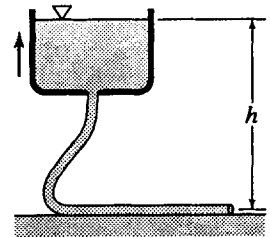

Figure P12.9
12.10 Attached to the tank in Fig. P12.9 is a flexible 40-mm-diameter hose ( $f = 0.024$ ) 65 m long. The tank is hoisted in such a manner that  $h = 10 + 0.5t$ , where  $h$  is the head in meters and  $t$  is the time in seconds. (a) Find as accurately as you can the flow rate at  $t = 10$  s. (b) Suppose  $h$  were decreasing at the same rate. What would be the flow rate when  $h = 15$  m?